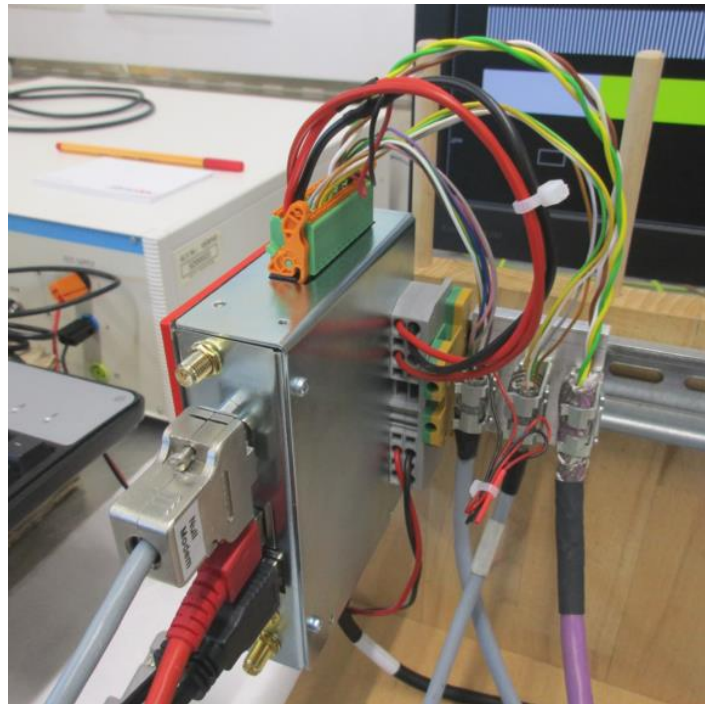

figure 19: EMC Shielding
In figure 19 we show the EMC shield (PE) connection that we utilized during EMC compatibility tests to pass industrial level immunity: